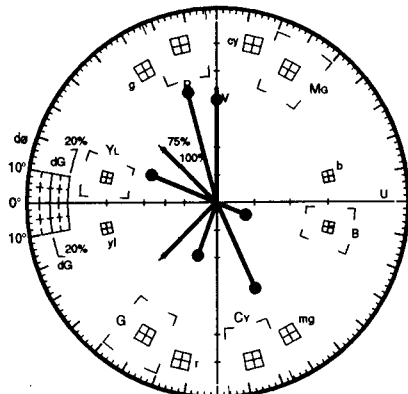

Fig. 5-43
- Repeat adjust from the 5.3.(A).1 and 5.3.(A).3. until both chrominance phase and gain are adjusted to proper position as shown in Fig. 5-43 and Table 5-46.